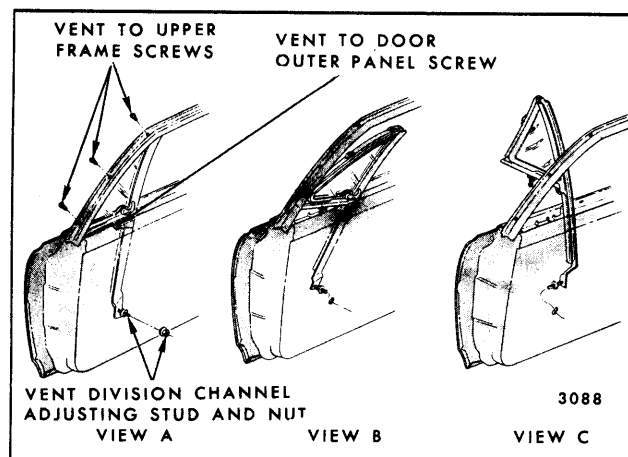

Fig. 6-74—Front Door Ventilator Removal
3. Lower door window and remove ventilator division channel lower adjusting stud nut and ventilator to door outer panel attaching screw (View “A” in Figure 6-74).
4. Remove ventilator to door upper frame attaching screws (View “A”, in Figure 6-74).
5. Lift ventilator rearward and upward until lower forward corner of assembly is free of door upper frame (View “B” in Figure 6-74).
6. Rotate ventilator assembly in an outboard movement and remove unit outboard of door upper frame (View “C” in Figure 6-74).